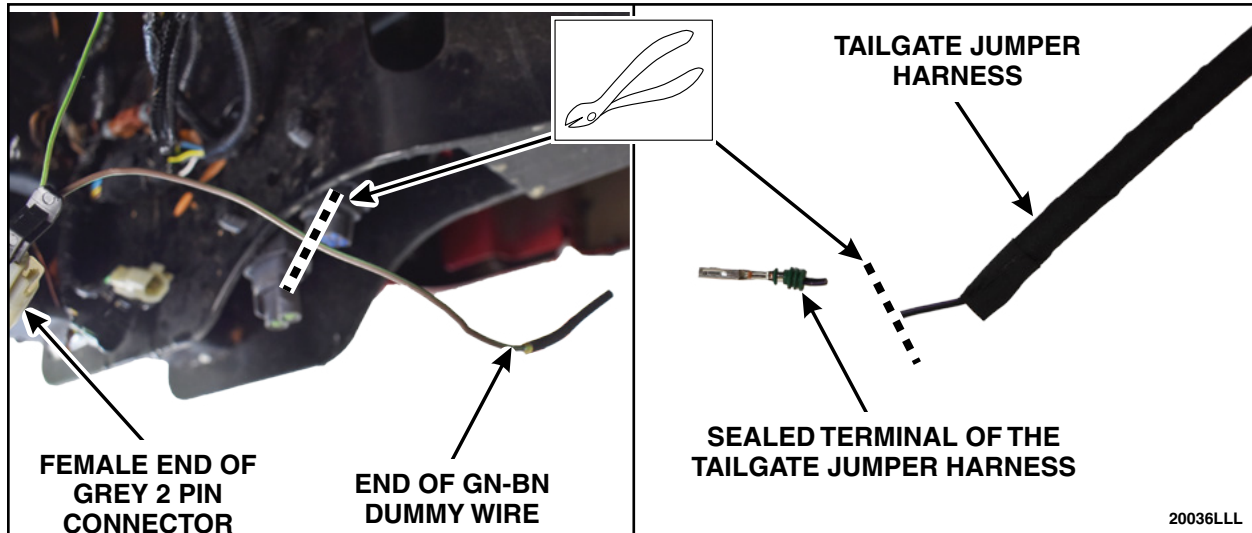

FIGURE 67
91. On the female end of the Grey 2 pin connector, cut the GN-BN dummy wire halfway between the heat shrink and the connector. Cut off the sealed terminal on the Tailgate Jumper Harness. See Figure 67.